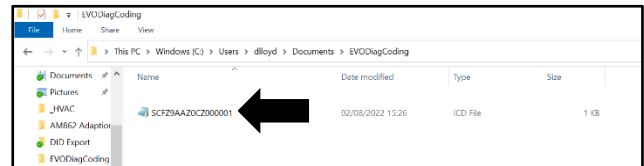

Figure 6
- Right click on the ICD file, then click open with "Notepad" (refer to Figure 6).